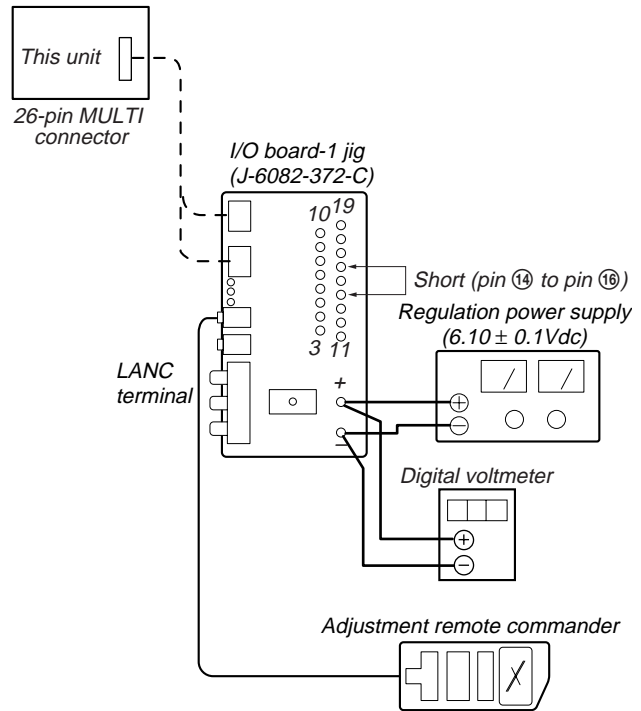

Fig. 5-3-6
- 1) Connect the regulated power supply and the digital voltmeter to the battery terminal as shown in Fig. 5-3-6.